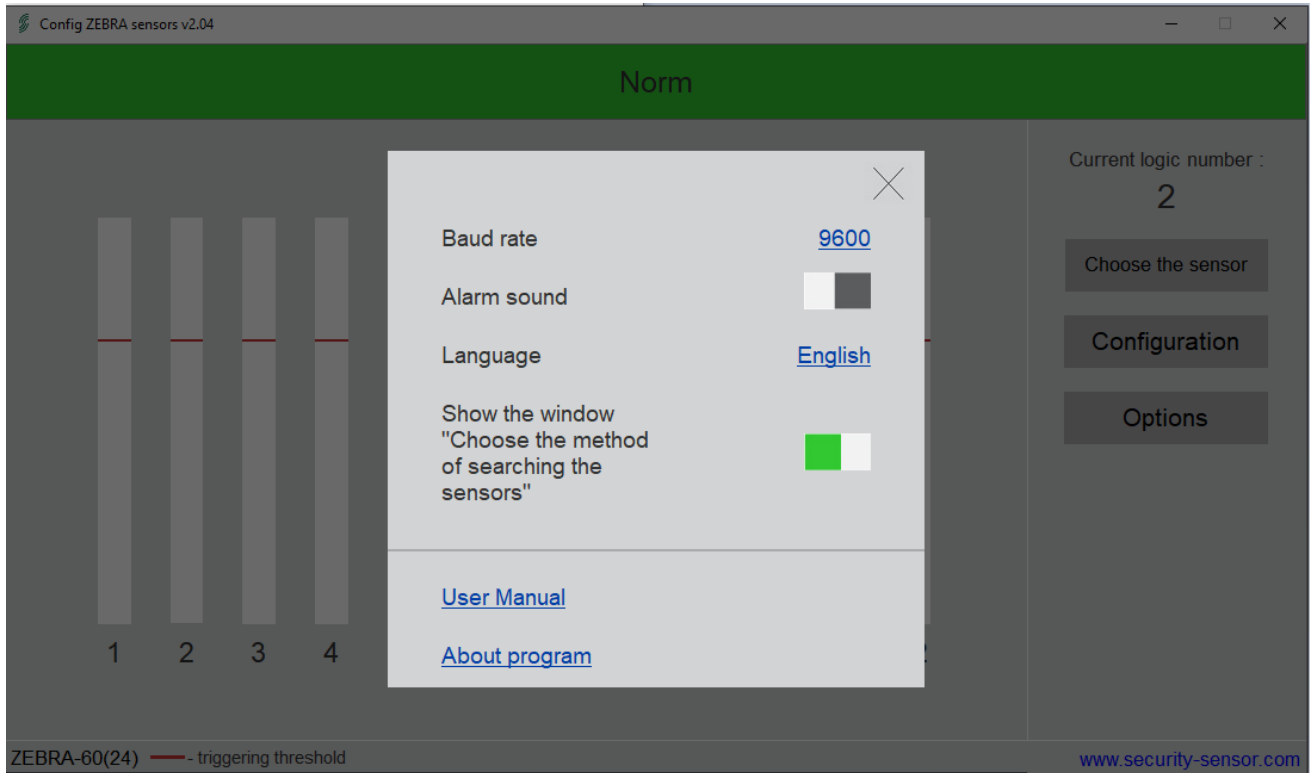

Figure 2.21
- 2.3.7.2.3 The field “Logical number” is used to display the logical number of the sensor. The “Choose the sensor” button is used to choose a sensor, if some sensors are connected. By clicking the “Options” button the window will be displayed like shown in Figure 2.21. In this window you can choose baud rate, switch on/off alarm